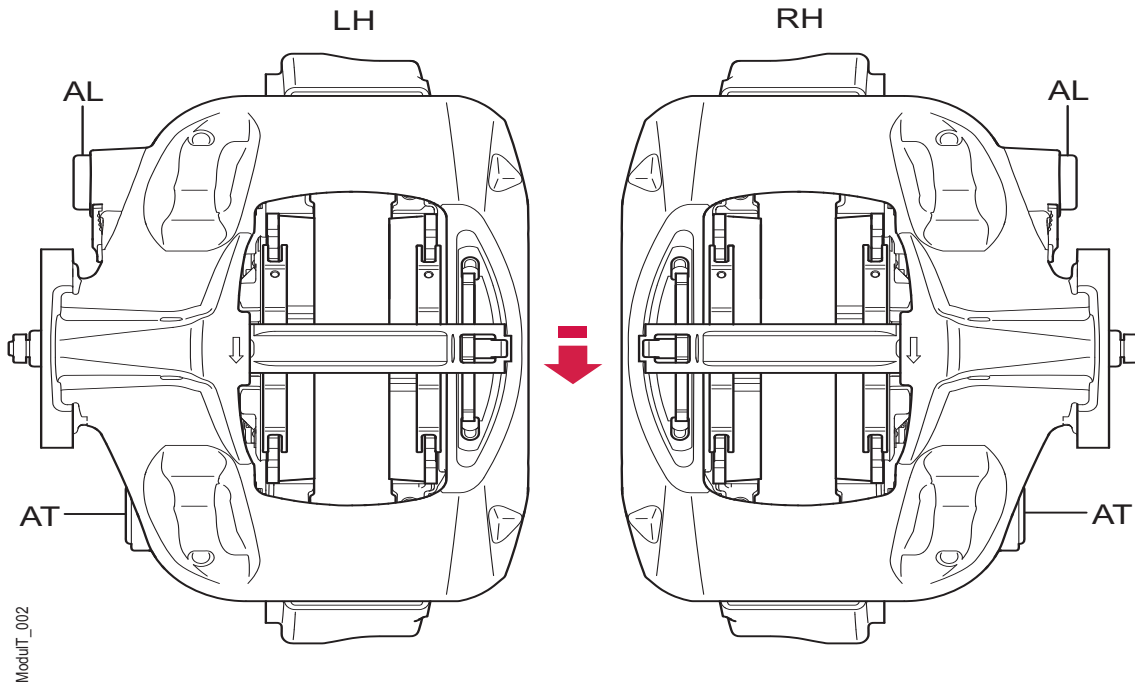

Figure 69. Haldex ModuLT orientation
Figure 69 below shows a general overview of both variants and their relation to the normal wheel/disc rotation, shown as a red arrow, and their leading (AL) and trailing (AT) slide functions.
Each calliper also has a rotation arrow formed on the cast surface where the pad retainer seats on the inboard side, see figure 69.